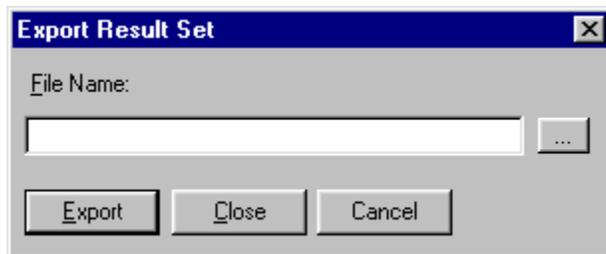

Figure 17.12 Xbase/Worksheet Export Dialog
4. On the Export dialog box, highlight “Result Set (.dbf)” in the list box and select Edit. The Export Result Set dialog shown in Figure 17.12 appears.